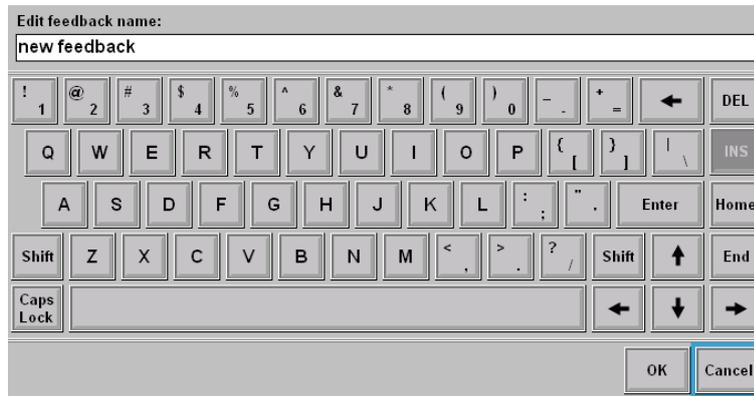

Figure G.16: DPShell. Creating feedback
2.4. In “Edit feedback name” window (see Figure G.16):